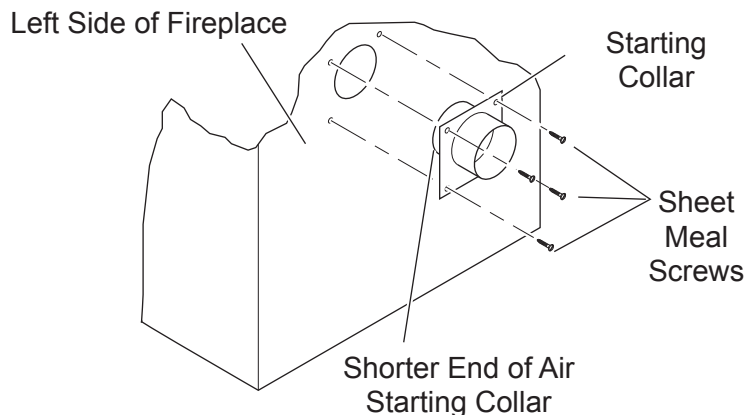

Figure 21 - Attaching Outside Air Starting Collar and Insulation Ring to Left Side of Fireplace
2. Place the starting collar into the hole on the side of the fireplace. Fasten collar in place with four (4) sheet metal screws as specified by *Figure 21*.